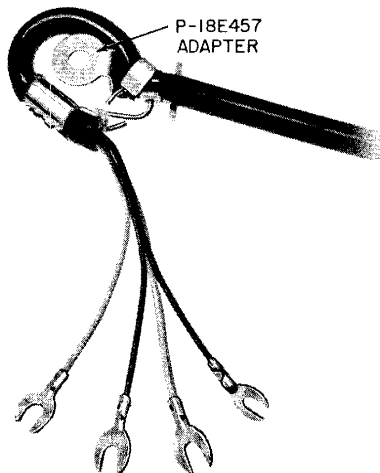

Fig. 13—Early Model D4BP Cord and Adapter
- (1) Remove P-18E457 adapter from cord (Fig. 13).